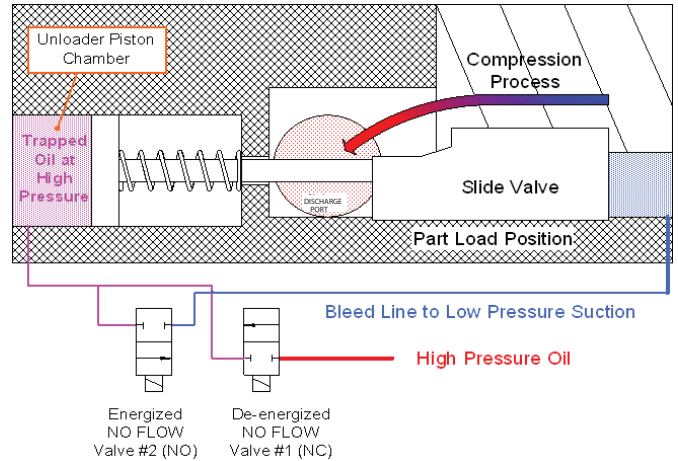

Fig. 21 — Configuration for Maintaining Part Load
- Part load is achieved by stopping the load or unload process previously described at an intermediate slide valve position. Stopping the valve at an intermediate position is accomplished by de-energizing valve #1 and energizing valve #2 (Fig. 21). When this happens, both valves are closed and the piston is not allowed to move. Cycling of the solenoids may be required to compensate for leakages around the piston seal, etc.